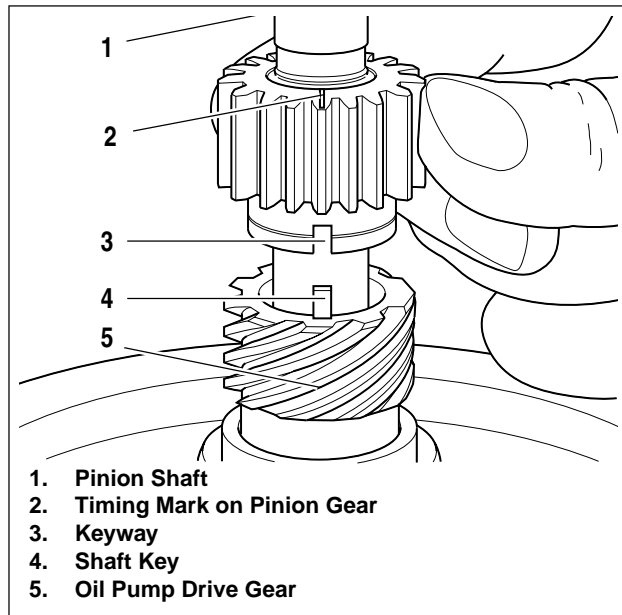

Figure 3-71. Aligning Pinion Gear
1. See Figure 3-71. Install oil pump drive gear (5) and pinion gear on pinion shaft.
- a. Slide oil pump gear drive gear (5) over pinion shaft (1). Drive gear must align with shaft key (4).
- b. Align keyway (3) in ID of pinion gear with shaft key (4).
- c. Slide pinion gear over shaft key (4) and against oil pump drive gear (5).